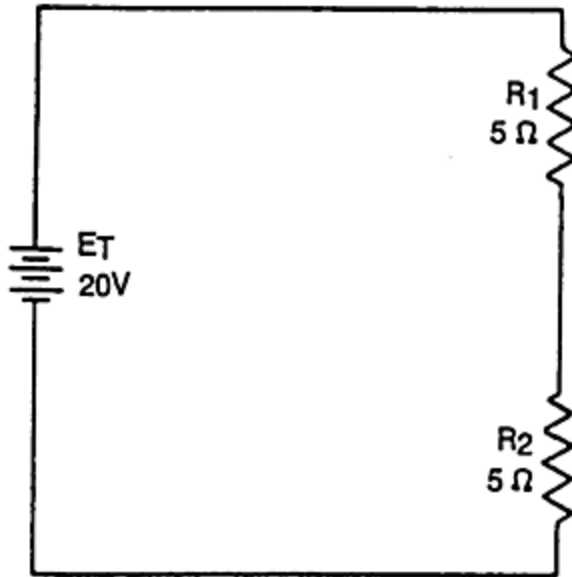

FIGURE 3-10. Calculating Individual Voltage Drops in a Series Circuit.
Voltage in a Series Circuit, The loads in a circuit consume voltage (energy). This is called a voltage drop. Voltage drop across the resistor in a circuit, consisting of a single resistor and a voltage source, is the total voltage across the circuit and equals the applied voltage. The total voltage across a series circuit that consists of more than one resistor is also equal to the applied voltage but consists of the sum of the individual resistor voltage drops. In any series circuit, the sum of the resistor voltage drops must equal the source voltage. An examination of the circuit in Figure 3-10 proves this. In this circuit, a source potential (E_t) of 20 volts is consumed by a series circuit consisting of two 5-ohm resistors. The total resistance of the circuit (R_t) equals the sum of the two individual resistance or 10 ohms. Using Ohm's Law, calculate the circuit current (I) as follows: